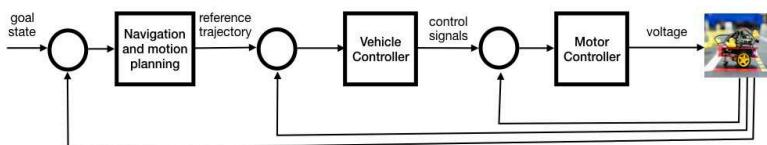

Figure 2.5. An example of nested control loops
The loops are called nested since the output of the outer loop is used as the reference input to the inner loop. An example is shown in Figure 2.5.
**Recommended:** If Figure 2.5 is VERY mysterious to you, then you may want to have a quick look in a basic feedback control textbook. For example [\[21\]](#) or [\[22\]](#).
The next inner loop of the nested controller in Figure 2.5 is the `Vehicle Controller`, which takes as input the reference trajectory generated by the `Navigation and Motion Planning` block and the current configuration of the robot, and uses the error between the two to generate a control signal.